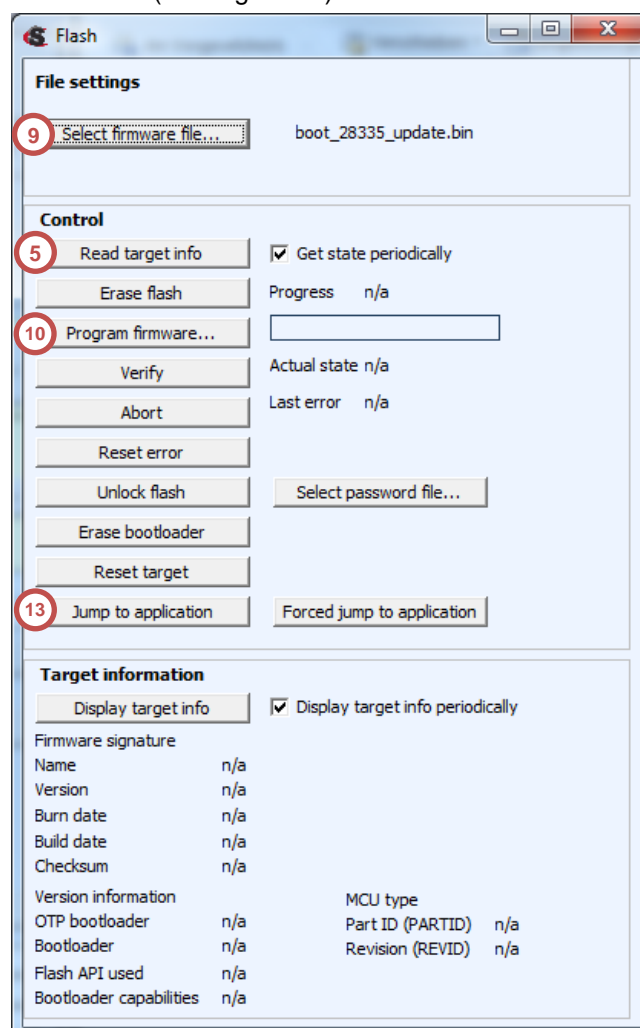

Figure 25 – Q-Control Flash view verify
4. Open Flash tool: View → Flash (see Figure 25)
5. Check connection: Click button “Read target info” (see Figure 25)